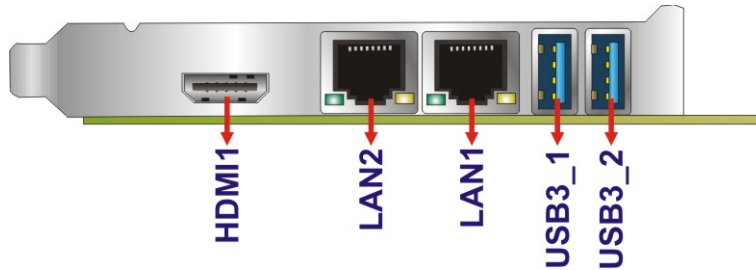

Figure 3-28: External Peripheral Interface Connector
CN Location: See Figure 3-28
- CN Location:** See **Figure 3-28**